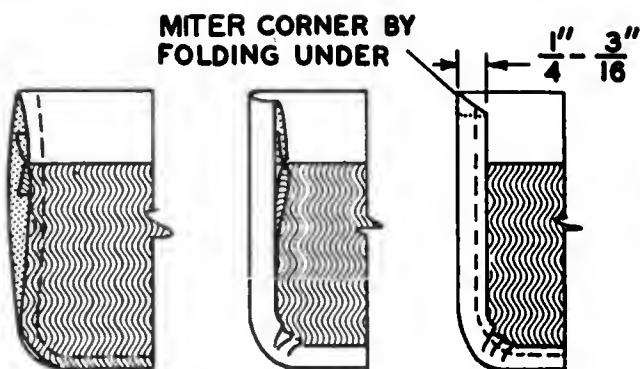

Fig. 148. Applying the lining by hand.
- K. As a guide for turning under the seam allowance machine-baste about  $\frac{1}{16}$  in. around the sides and lower edge, outside the marked seamline (Fig. 148). Baste under the seam allowance. Cut out the excess at the corners and rounded edges. Miter at the top corners. Press. Trim the seam to slightly less than  $\frac{1}{4}$  in.